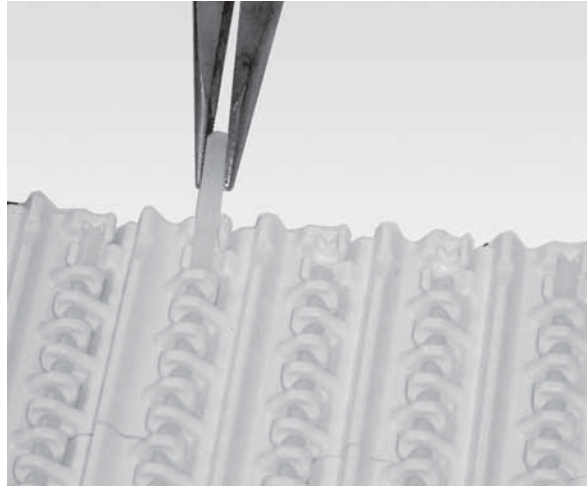

Figure 57
3. Remove the belt rod by gripping the end with a set of pliers and pulling (**Figure 57**).